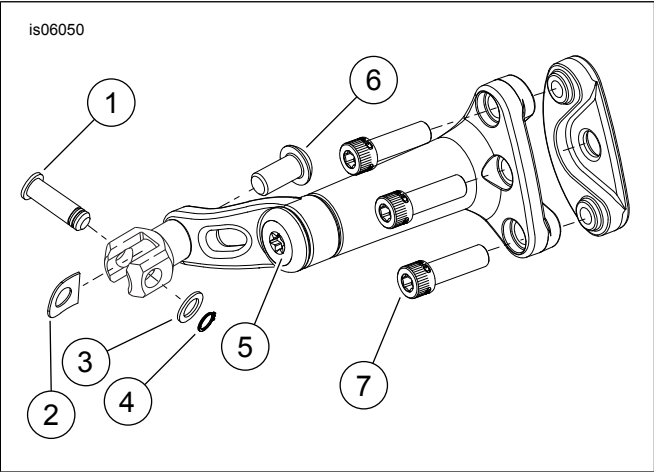
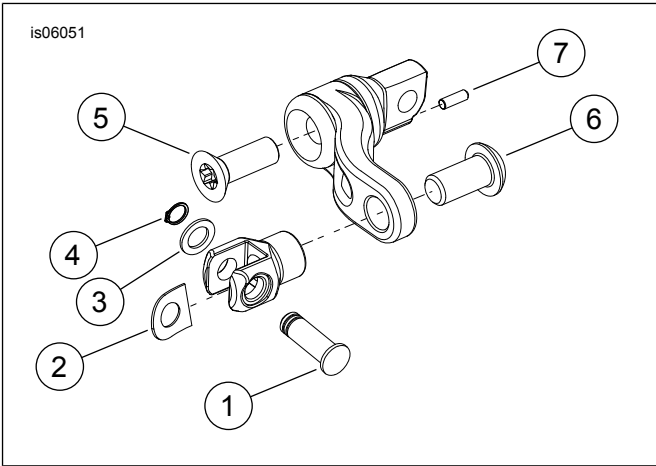

Figure 4. Service Parts: Adjustable Footpeg Support
Figure 5. Service Parts: Adjustable Footpeg Support
See Figure 4 and Table 1 and Figure 5 and Table 2.
1. See Figure 4 and Table 1 and Figure 5 and Table 2. Assemble the support arm and female clevis to the footpeg support.
2. Secure footpeg to supports using spring washer (2), clevis pin (1), washer (3) and retaining ring (4).
- To adjust the position of the footpeg, loosen flat head screw (5) and button head screw (6). Adjust to desired location and tighten screws to 61–67.8 N·m (45–50 ft-lbs).